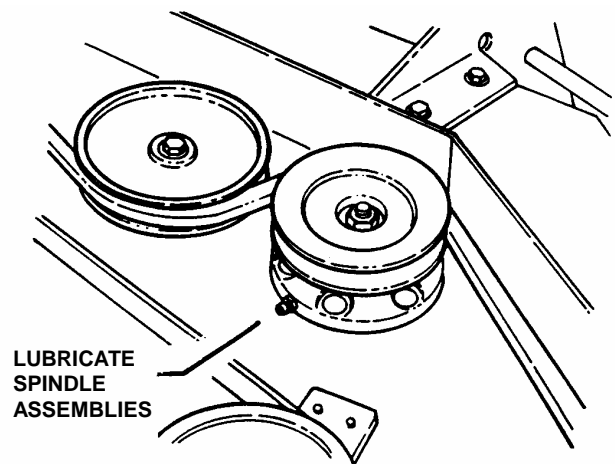

FIGURE 3.4
- Remove foot rest to gain access to lubrication fitting located on the top of deck below deck pulleys. Lubricate with Kendall NLGI No. 2 lithium grease or equivalent, from a grease gun until grease purges from vent located on spindle housing underneath deck. See Figure 3.4.